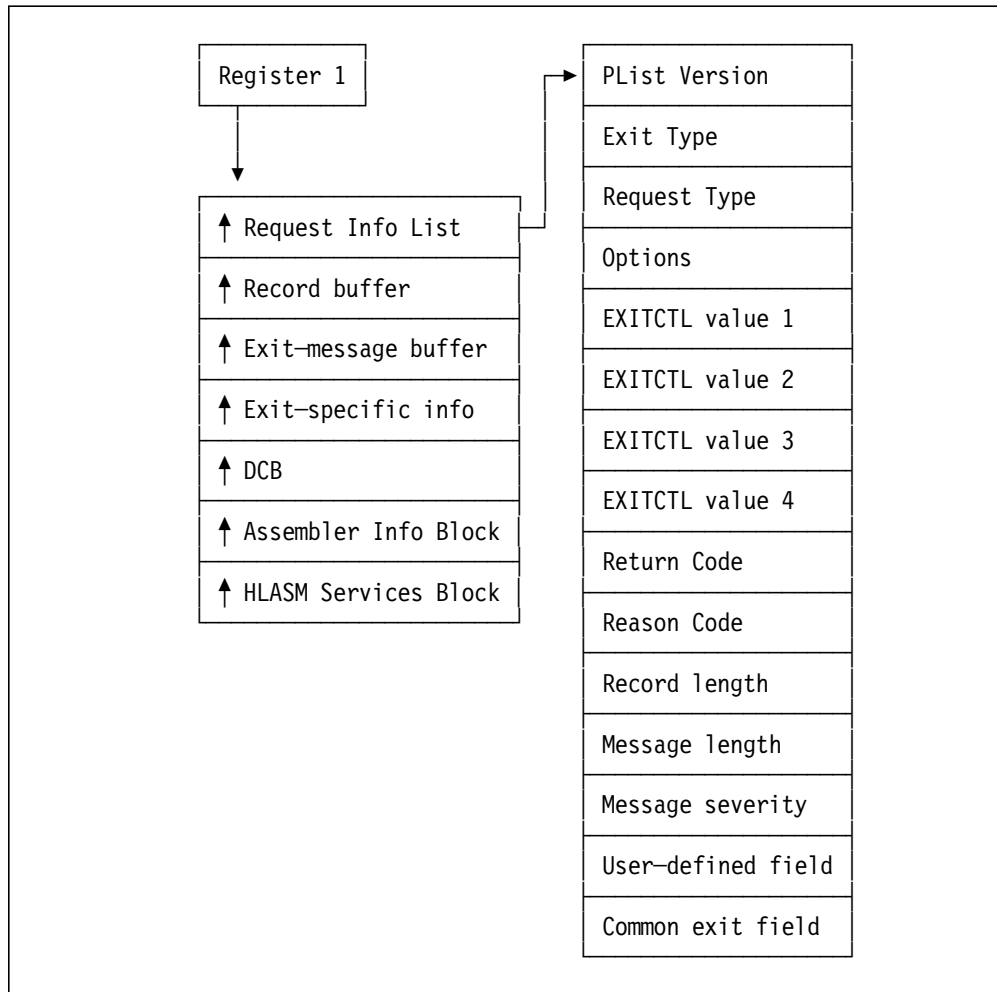

Figure 1. I/O Exit Parameter List
The interface between HLASM and I/O exits establishes a “coroutine” interaction: both the assembler and the exit routine must cooperate, with neither being fully in control of the other. All interactions take place through the parameter list illustrated in Figure 1 on page 8.
1. The address of the “Request Information List”. This list is illustrated in Figure 1 on page 8.